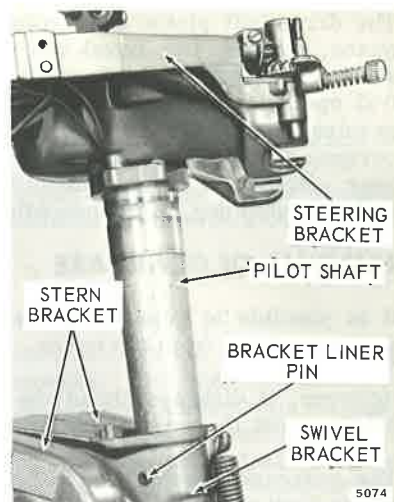

Figure 6-10. Removing Pilot Shaft
g. Loosen steering friction screw. Lift steering bracket and pilot shaft assembly from swivel bracket. Remove pin and swivel bracket liner, pilot shaft bushing, thrust washers, and steering friction spacer and plate. See Figure 6-10. Pilot shaft can be removed from steering bracket by removing four screws.